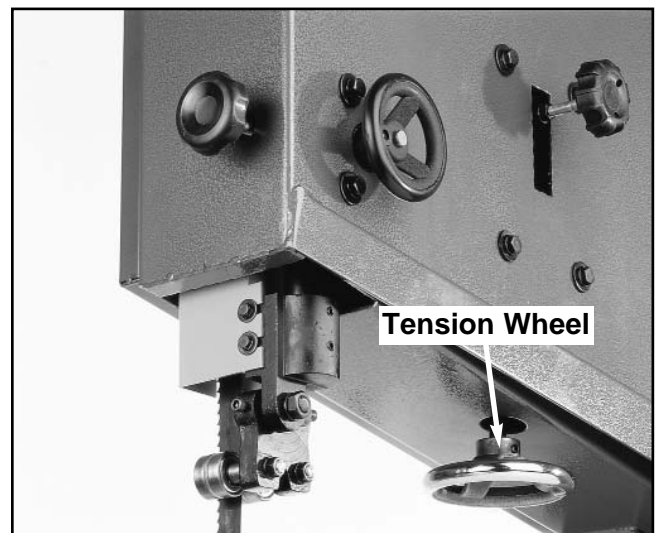

Figure 4. Tension wheel adjustment location.
2. Turn the tension wheel until the blade deflects about $\frac{1}{4}$ ". See **Figure 4**.